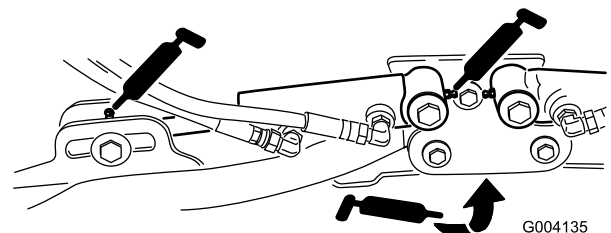

Figure 51
- Cutting unit lift arm cylinders (2 each) (Figure 51)
- Lift arm pivots (1 each) (Figure 51)